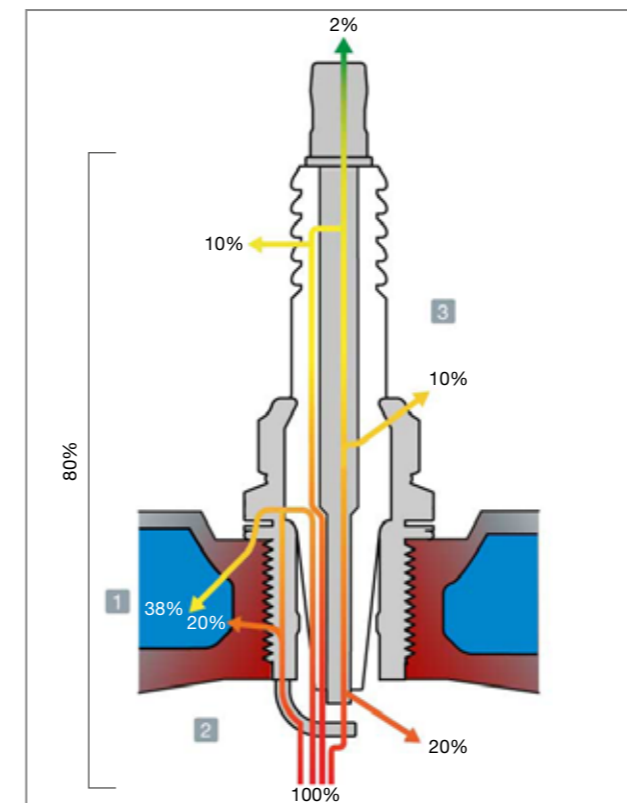

Fig 6.12 Heat dispersion from a spark plug
The illustration in Fig 6.12 shows how the heat absorbed by the spark plug is mainly dispersed through to the engine coolant (1). The rest of the heat is dispersed into the fresh charge of intake air/fuel mixture (2) as well as through the spark plug housing and through the insulator to the surrounding air (3).